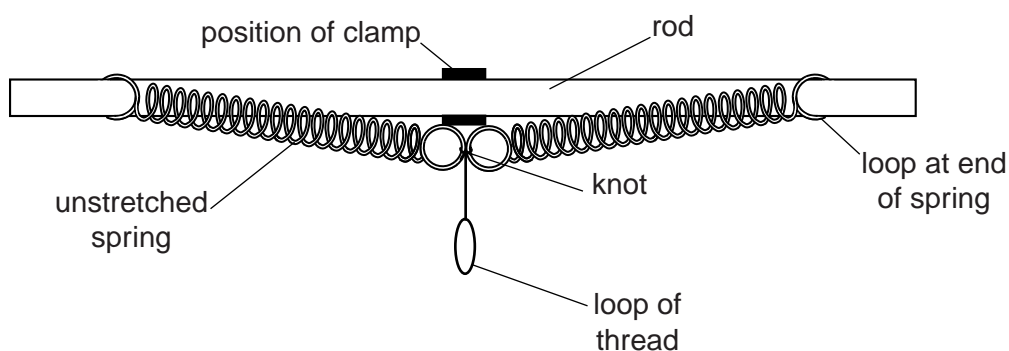

Fig. 4.1
2. The diameter of the rod should be the same as the diameter of the loops at the ends of the springs so that the loops are a tight fit onto the rod. The loop of one spring should be pushed onto one end of the rod and a loop of the second spring should be pushed onto the other end. The loops should be symmetrical about the centre of the rod and should be separated by about 8 cm. The lower loops should then be tied together with the thread and a loop should be created at the end of the thread so that the slotted mass hanger can be suspended from the loop. In this position, the springs should be approximately horizontal and not under any tension. If necessary the Supervisor should adjust the separation of the loops so that the apparatus is set up as shown in Fig. 4.1.